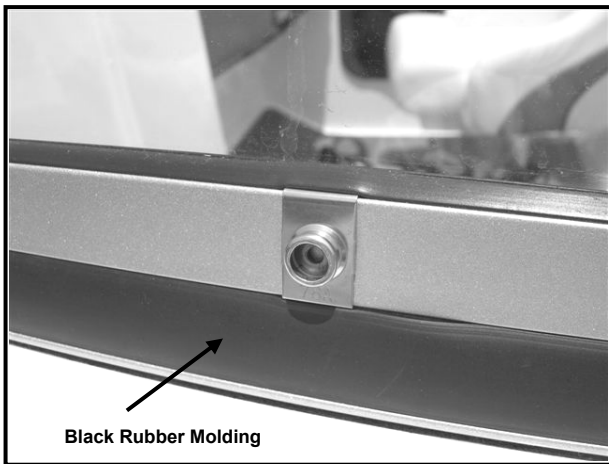

Fig. 1
- Find the front center of the canvas and install three windshield clips to the center windshield, using the rubber windshield bumper cutout and the center seam as a locator. (Fig. 1 shows proper snap installation)
Prior to installing the windshield clips, you may want to remove the black windshield rubber molding (See Fig. 1), then reinstall after all windshield snaps are in place.